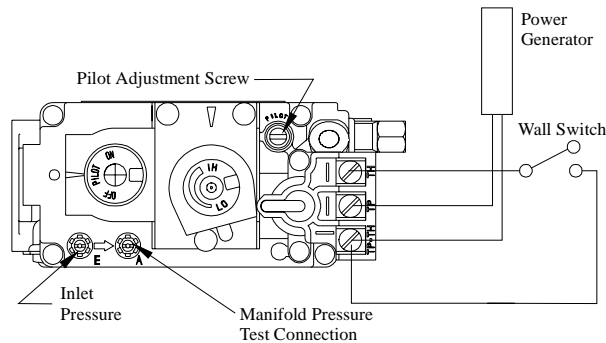

Figure 27 Sit Nova 820 gas valve.
- Have the fireplace installation inspected yearly, including a visual check of the vent system, the burner and the pilot flame. For your convenience a 1/8" manifold pressure tap is supplied on the gas valve for a test gauge connection. See Figure 27.
1. Locate Pilot Adjustment Screw. (See figure 27.)
Pilot won't ignite	Disconnect remote wires and try to light pilot. If pilot now works, remote connections are faulty. Check wiring diagram figure 27.
Main burner will not light	1. Check wiring (see figure 27). 2. Check wall switch for proper connection.